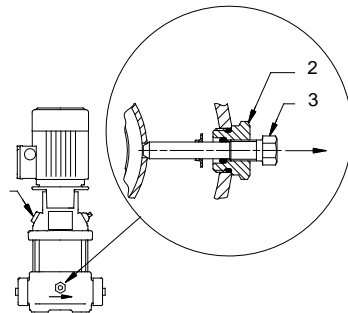

Fig. 3
2. Remove the priming plug (pos. 1) from the pump head. See fig. 3.
2. Slacken the small screw of the bypass valve (pos. 3) and pull it out against stop. See fig. 3.
3. Remove the priming plug (pos. 1) from the pump head.